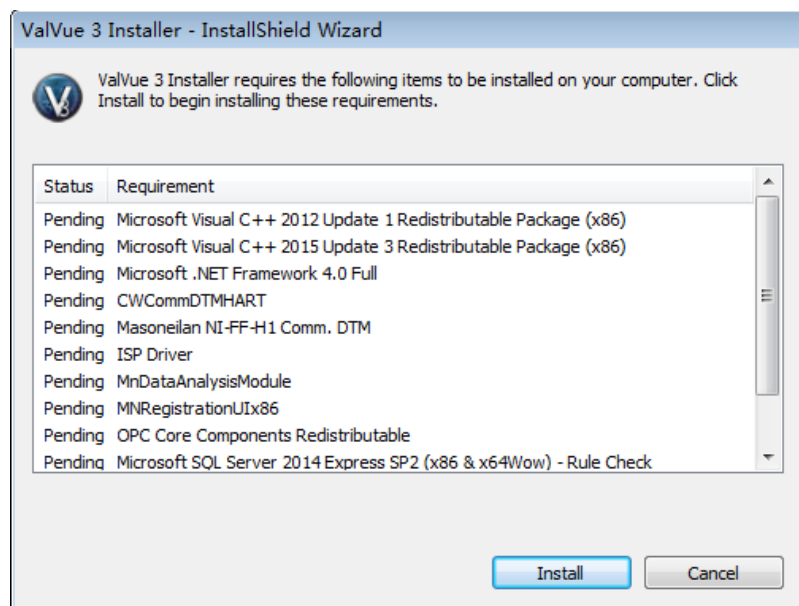

Figure 3 Install Masoneilan NI-FF-H1 Comm. DTM
2. Click **Install** and the extraction process begins. Click to allow installation on any intermediate messages that appear. The *Preparing Setup* dialog appears. If you have not previously installed ValVue3 then Figure 3 appears.